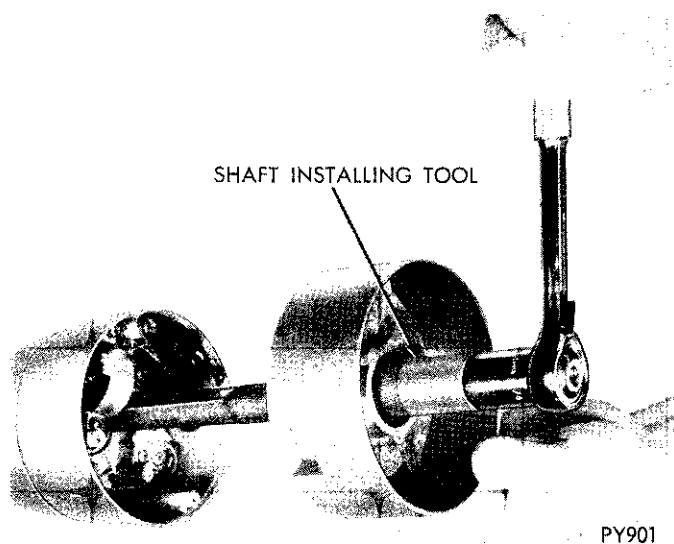

Fig. 29—Pulling Shaft into Bearing
(5) Position the bearing housing assembly on the column jacket assembly, feeding the wires through the space between the lower housings and the jacket.
(6) When installing this housing, the steering shaft must be drawn, not pushed, through the bearing, using the bearing inner race as a reaction member, or damage to the shaft plastic shear pins, lock housing components, or bearing could result. **DO NOT DRIVE THE SHAFT INTO THE BEARING.**
(7) Install on steering shaft, Tool C-3879, with washer and steering wheel nut (Fig. 29). Turn nut to pull shaft through bearing. Remove tool and install upper snap ring on shaft.
(8) Install and tighten to 35 in.-lbs. the 3 bearing housing to lock housing screws.
(9) Carefully install the ignition key lamp assembly in the bearing housing (2 screws).
(10) Install the wiring trough in place over the wires, being careful to not pinch wires between trough and jacket.